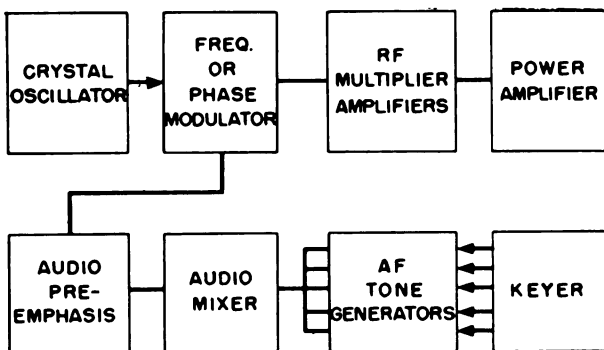

Figure 3L.
60. What is the function of the audio pre-emphasis unit of the command transmitter shown in figure 3L?
61. What is the purpose of using a crystal to control the master oscillator of the command transmitter shown in figure 3L?